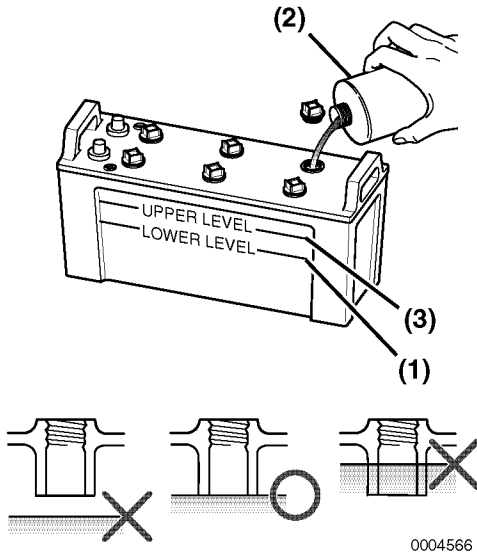

Figure 12
- If the level is lower than the minimum fill level (**Figure 12, (1)**), fill with distilled water (**Figure 12, (2)**) (available in the grocery store) up to the upper limit (**Figure 12, (3)**) of the battery.